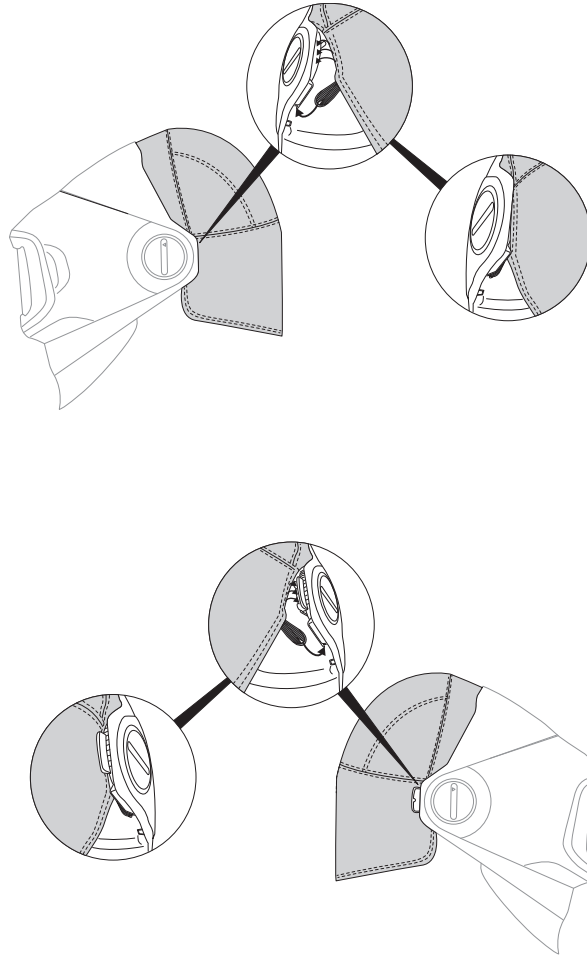

Fig. 17b
- c. Additionally, for the large head cover, the sides need to be secured in place. Pull the sides of the large head cover down along the sides of the welding helmet and attach the elastic around the holders at the jaw line of the welding helmet (Fig. 17b).